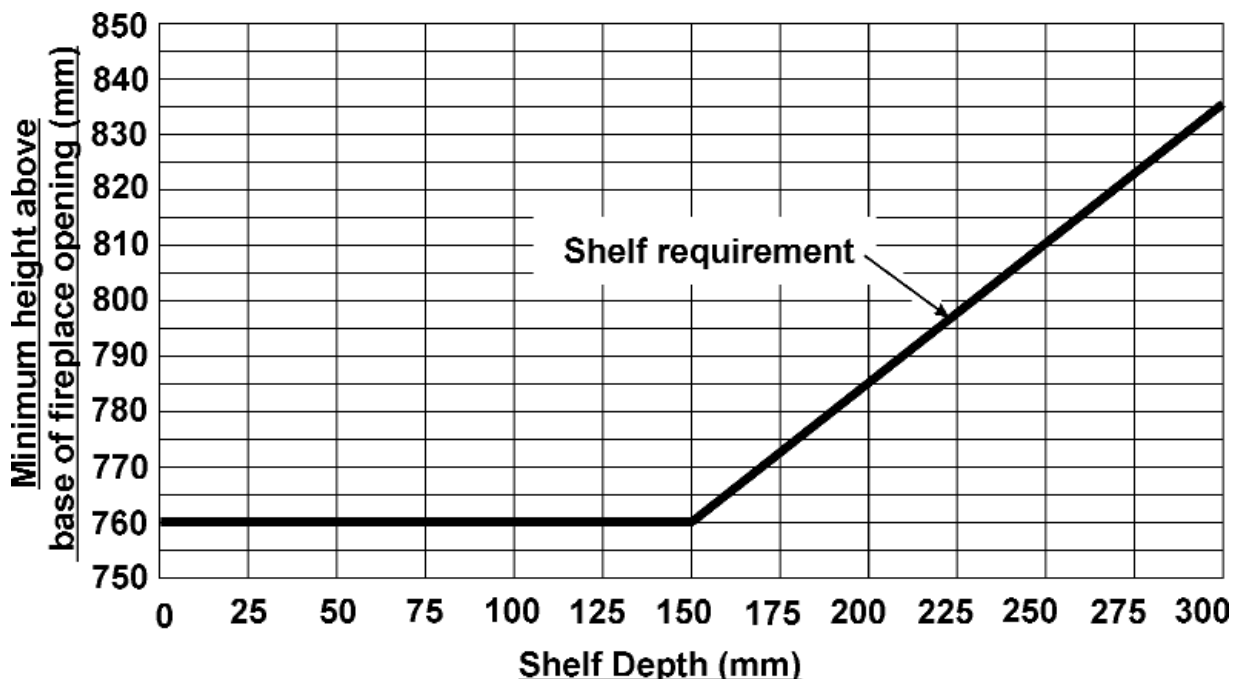

Figure 1. Combustible shelf clearances.
Do provide a minimum clearance as shown in figure 1 above the base of the fireplace opening to any shelf made of wood or other combustible material.
• *For a shelf deeper than 150mm: 760mm + 12.5mm for every 25mm depth over 150mm (See Figure 1).*